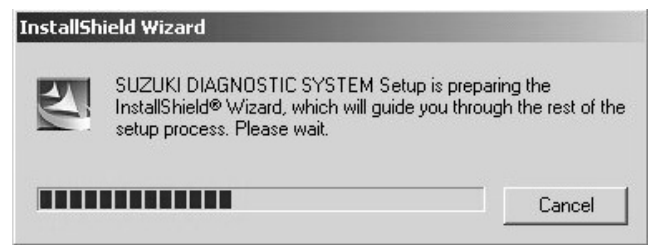

Fig.122
3. SDS program uninstallation is automatically started. (Fig.122)